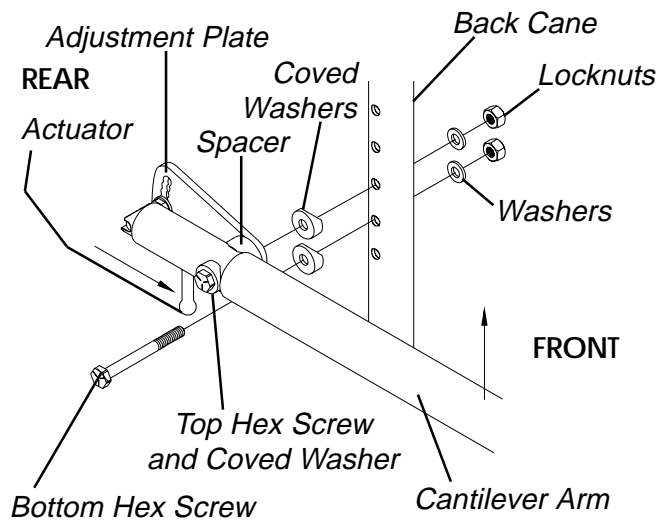

FIGURE 1 - USING CANTILEVER ARMS - INSTALLING/REMOVING CANTILEVER ARMS - ADJUSTING CANTILEVER ARM HEIGHT
USING CANTILEVER ARMS (FIGURE 1)
INSTALLING/REMOVING CANTILEVER ARMS (FIGURE 1)**Installing**
3. Secure the cantilever arm to the wheelchair with the washers and locknuts as shown in FIGURE 1.
ADJUSTING CANTILEVER ARM HEIGHT (FIGURE 1)
4. Insert the two (2) hex screws with hardware and cantilever arm assembly into the desired back cane mounting holes.
5. Secure the cantilever arm to the back canes with the locknuts and washers as shown in FIGURE 1.